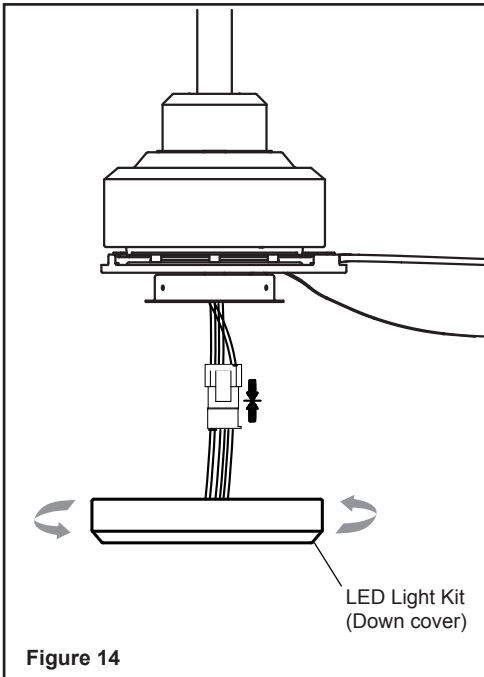

Figure 14
Step 1 - Connect the male plug on fitter plate to female plug in light kit. (Fig.14)